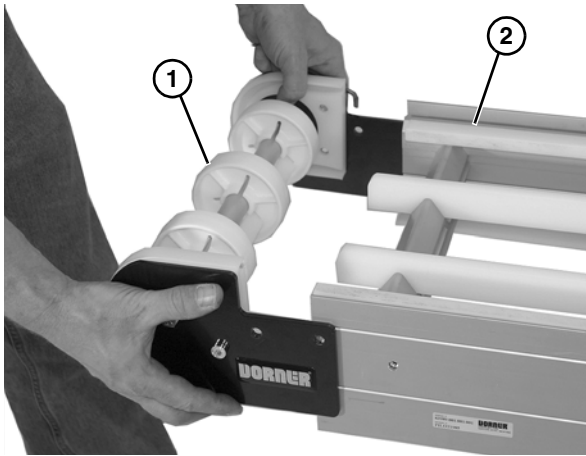

Figure 63
3. Remove idler assembly (**Figure 63, item 1**) from conveyor (**Figure 63, item 2**).